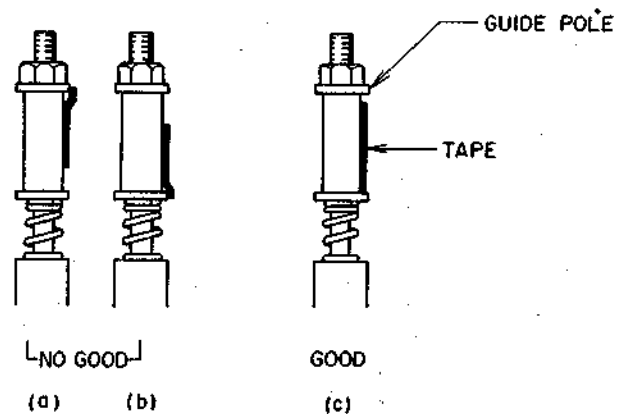

Fig. 124
- 4) While watching the tape running on the take-up guide pole, turn the adjustment screw slowly so as to eliminate the curling of the tape (Fig. 124 (C)).